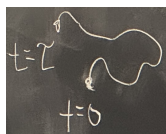

Figure 3.6: A diffusing molecule.
- This is a molecular view of diffusion, from time $t = 0$ to time $t = \tau$ (Figure 3.6).